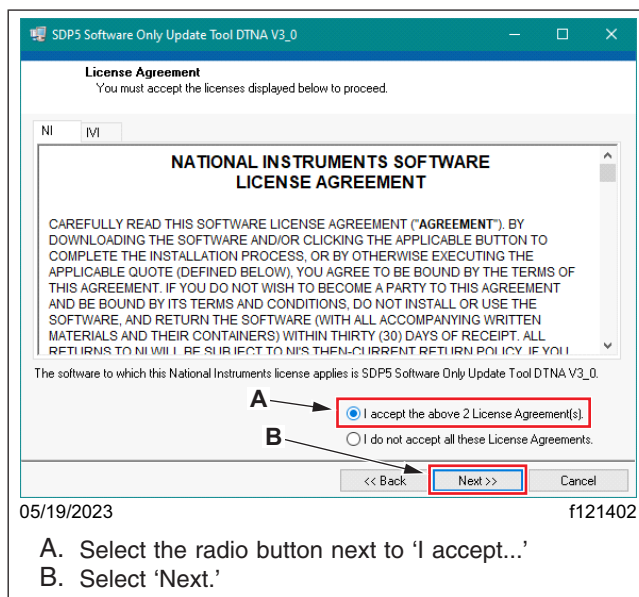

Fig. 9, Accepting the License Agreements
11. Select the radio button next to 'I accept the above 2 License Agreement(s).' Select 'Next.' See Fig. 9.